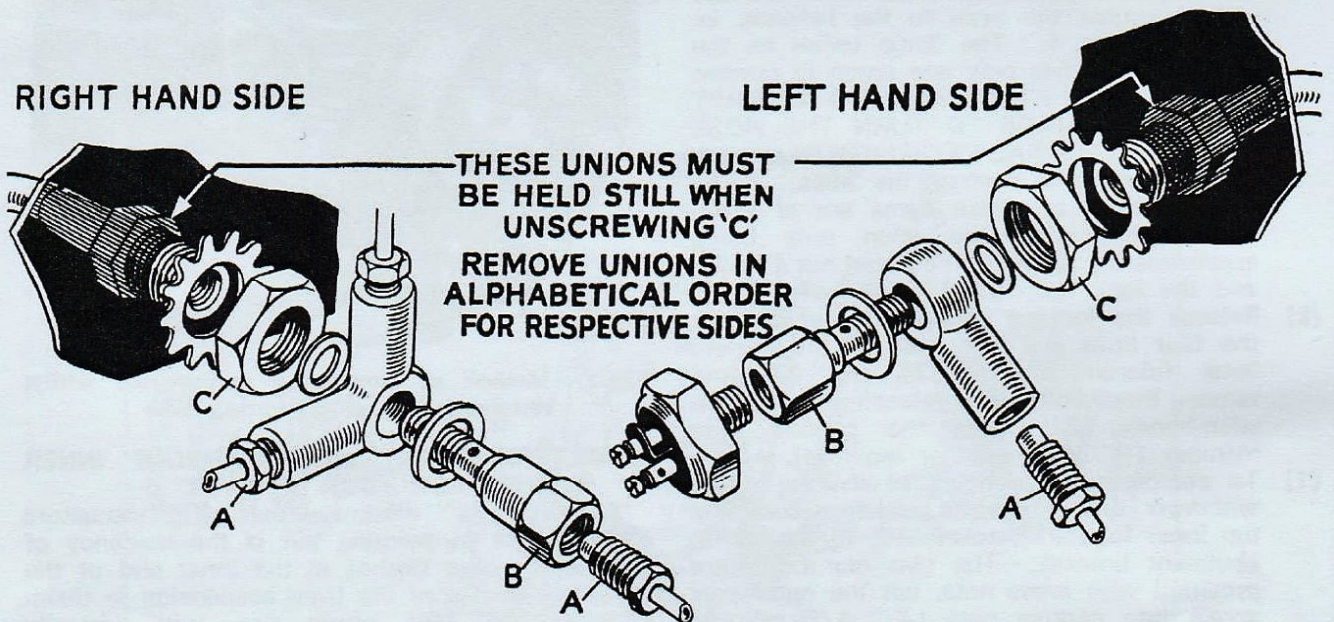

Fig. 4. Front brake hydraulic pipe connections
- (j) Disconnect the brake hose from the body valance. This detachment necessitates the removal, in the case of the right hand side of the car, of the two lower hydraulic unions and barrel nut to allow access to the nut which secures the hose to the balance, as shown in Fig. 4. The banjo union on the left of the car has only one union to remove in addition to the barrel nut. NO ATTEMPT SHOULD BE MADE TO TURN THE HOSE BY ITS HEXAGONAL EXTREMITIES, as such a procedure will destroy the hose. The hexagon sizes on these items are of Whitworth specification—the union nuts being approximately $\frac{7}{16}$ " A/F, the barrel nut $\frac{3}{8}$ " A/F, and the lock nut $\frac{15}{16}$ " A/F.
- (k) Release the locking plates (26) which lock the four bolts on each side of the bottom inner fulcrum bracket (24 and 27) and remove these bolts, thus releasing the bottom wish-bones (22) from the chassis side member ($\frac{9}{16}$ " A/F spanner required).
- (l) To complete the removal of the assembly, withdraw the four bolts which secure the top inner fulcrum bracket (26) to the spring abutment bracket. The two rear bolts are provided with loose nuts, but the outer pair screw into captive nuts ($\frac{9}{16}$ " A/F spanner required).